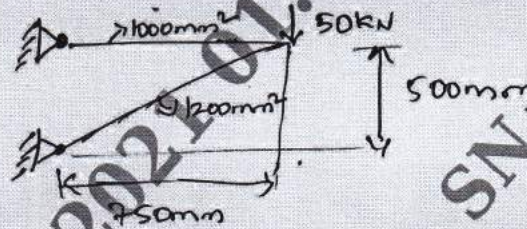

Fig.Q6
- 6 For the 2 bar truss shown in Fig.Q6, determine nodal displacement and stress in each member. Also find support reaction.  $E = 200 \text{ Gpa}$ .